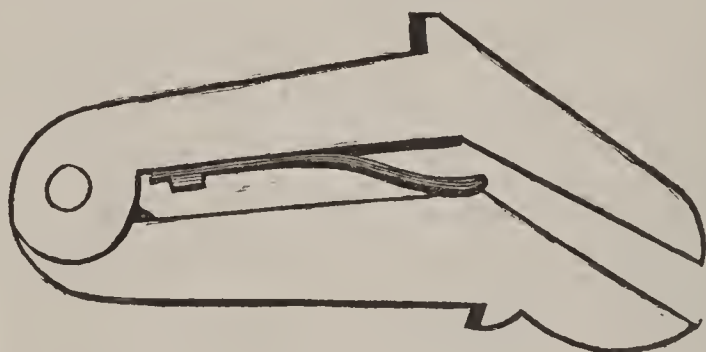

FIGURE 4.
*Beveling Clamp.*—These tools are generally made of about three sizes, and are used for holding hammers when filing the bevel upon the sides. They are also useful for holding lock-plates while filing the bevel on them. In the vise, work can only be conveniently held at a vertical or horizontal position; this clamp is designed to furnish a means to hold it so as to file an angle of about 45 degrees. The tool is shown in Fig. 4. It is held in the vise, the shoulders resting on the vise jaws. The spring